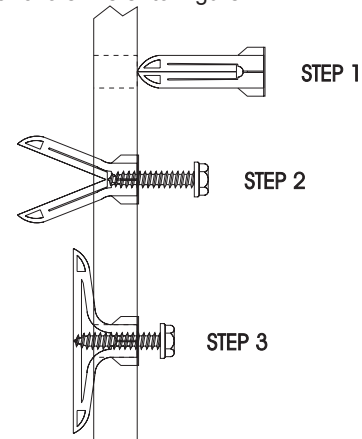

Figure 2
3. After locating mounting holes, drill (2) 5/16" diameter holes into wall. Insert the (2) plastic expansion anchors into holes. Insert (2) #10 x 1 1/2" screws provided in blower kit into (2) plastic expansion anchors. Do not completely tighten screwhead to plastic expansion anchors, leave a 7/16" gap between screwheads and plastic expansion anchors. Refer to Figure 2.
4. At the top of outer casing remove (1) screw from center clearance hole that attaches outer casing to header assembly. Also, remove (2) screws that attach bottom of outer casing to inner casing.
6. Remove (4) 8 x 3/8" screws that attach blower front to blower housing.
7. After locating mounting holes, drill (2) 5/16" diameter holes into wall. Insert (2) plastic expansion anchors into holes. Insert (2) #10 x 1 1/2" screws provided in blower kit into (2) plastic expansion anchors. Do not completely tighten screwhead to plastic expansion anchors, leave a 7/16" gap between screwheads and plastic expansion anchors. Refer to Figure 2.